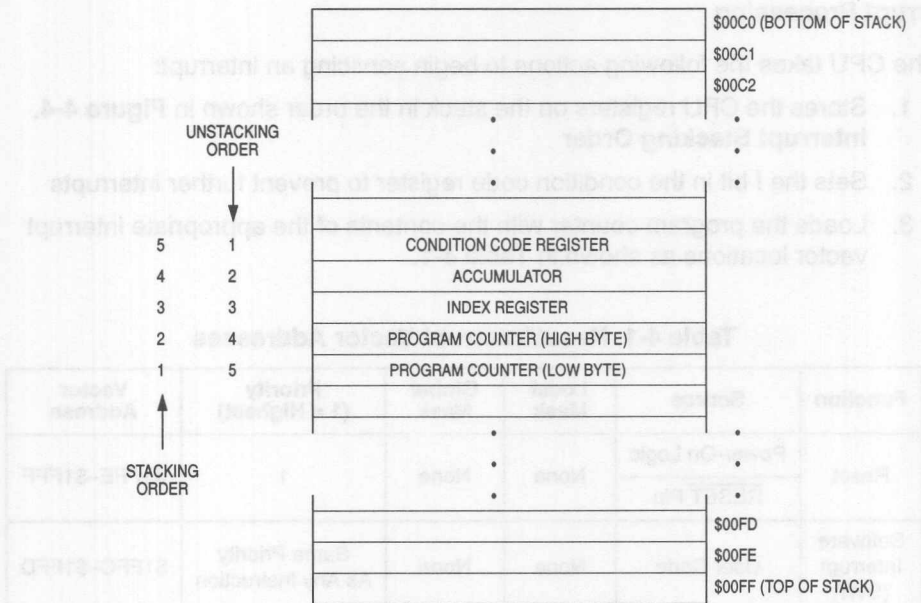

Figure 4-4. Interrupt Stacking Order
1. Stores the CPU registers on the stack in the order shown in **Figure 4-4. Interrupt Stacking Order**
The return from interrupt (RTI) instruction causes the CPU to recover the CPU registers from the stack as shown in **Figure 4-4. Interrupt Stacking Order**.